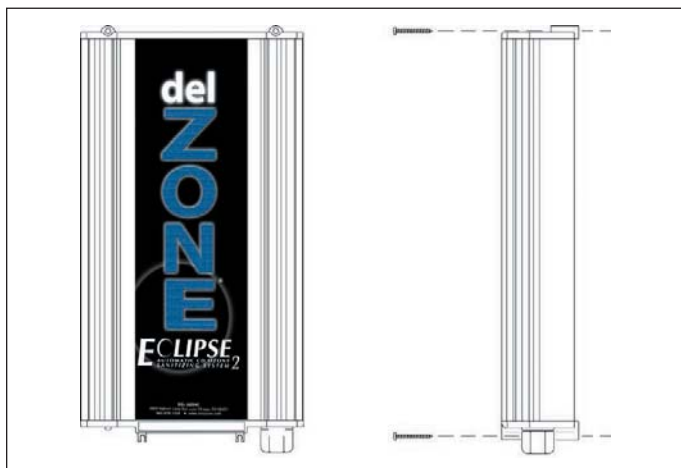

Figure 1 Wall Mount
- A pressure wire connector is provided on the outside of the unit to permit connection to a minimum No. 8 AWG (8.4 mm²) solid bonding conductor between this point and any metal equipment, metal enclosures of electrical equipment, metal water pipes, or conduit within five (5) feet (1.5m) of the unit as needed to comply with local requirements.
- Install at least 5 feet (1.5 meters) from wall of pool water using nonmetallic tubing. Install ozone generator no less than one (1) foot above maximum water level to prevent water from contacting electrical equipment. Install in accordance with the installation instructions.
- The DELZONE® Eclipse must be installed in an outdoor location, or indoors in a forced air ventilated room, and installed so that the orientation is exactly as shown in Figure 1. Install to provide water drainage of generator to protect electrical components.
The DELZONE® Eclipse units are designed for wall mounting. **See Figure 1.** Mount generator in a clean, protected area, either indoors or outdoors. Locate generator out of reach of sprinklers or drainage spouts. Allow sufficient access for maintenance and all tubing and electrical wires. Ozone generator should be installed at least (not less than) one foot above the maximum water level. **Note:** Injector manifold needs to be installed after all other equipment or possible failure may occur.
1. Refer to Figure 1 to mark the locations for the four mounting screws.